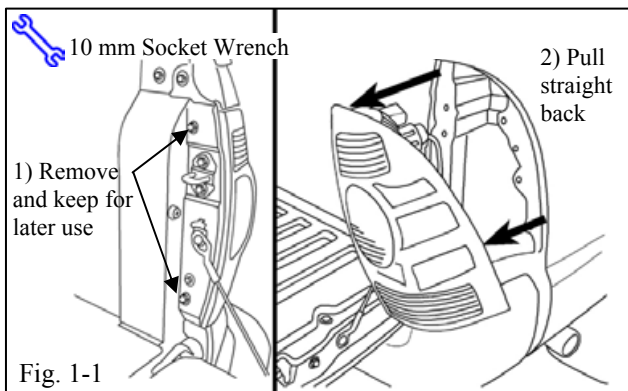
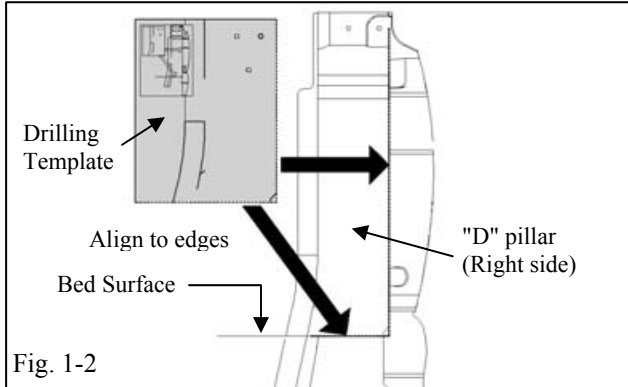

Fig. 1-1
Fig. 1-2
! (1) Carefully remove the lamp assemblies (Fig. 1-1).
(2) Remove the Toyota '05 Tacoma "D" pillar drilling templates from the bracket kit. Fold or cut on the dashed lines as described on the template.
! (3) Align the right side template to the right side "D" pillars as described on the template (Fig. 1-2).